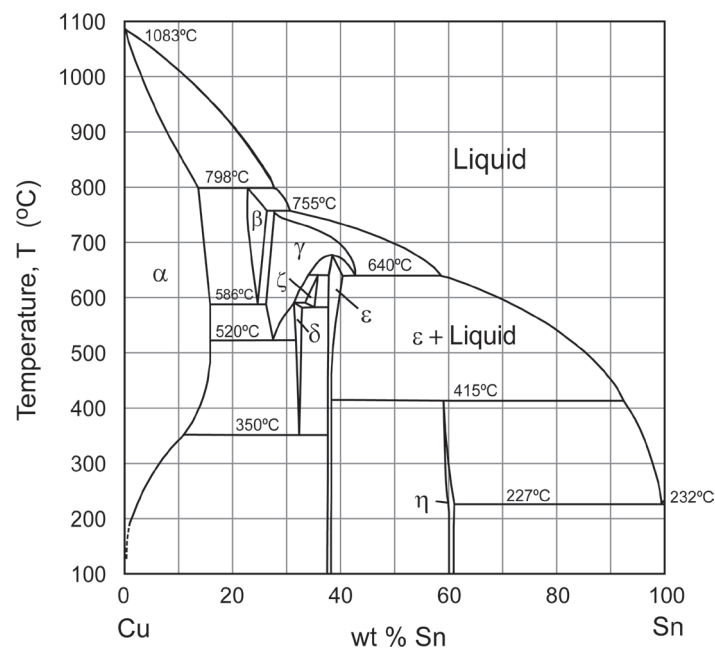

Figure 8: copper-tin Cu-Sn phase diagram
14. The copper-tin system (which includes *bronzes*) is shown in Figure 8.